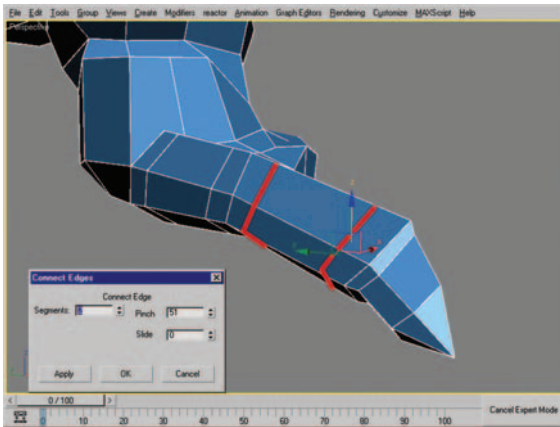

Figure 9.69 Edge-ring selection after using Connect with the settings seen in the dialog box.
31. Repeat the process outlined in step 30 on the next segment of the finger. Figure 9.69 shows the segment with the Connect settings dialog box and same values from the previous step.